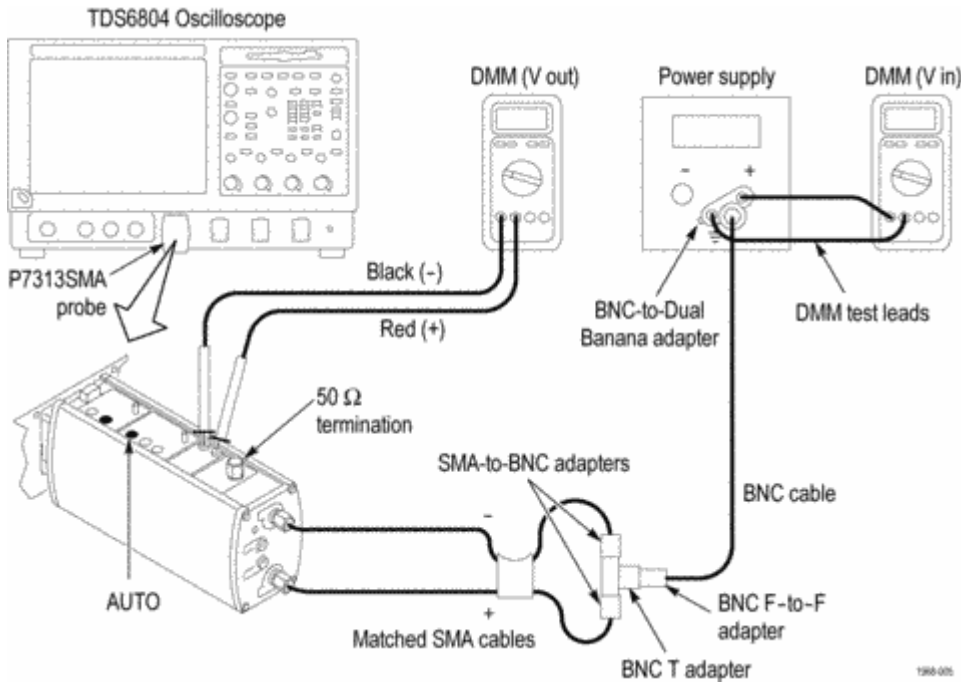

Figure 26: Termination Voltage Accuracy, Auto mode setup
1. Connect the test setup as shown. (See Figure 26.)